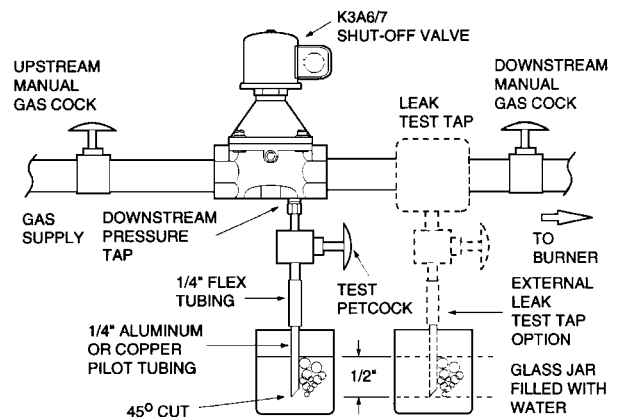

Figure 3. Testing for internal seat leakage.
Series K3A6 and K3A7 valves are provided with two 1/8" NPT tapped and plugged holes (pressure taps). The upstream tapped and plugged hole is on the side of the valve body; downstream on the bottom of the valve body. One upstream for pressure testing; one downstream for seat leakage testing. Leakage testing frequency shall be at least annually in accordance with NFPA-86 or original equipment manufacturer recommendations. For instructions, refer to section on *Testing for Internal (Seat) Leakage* and Figure 3.
Testing for Internal (Seat) Leakage (Refer to Figure 3)
4. Shut off the upstream manual gas cock and de-energize valve. Remove the plug from the leak test tap or downstream pressure tap in the valve body. Connect leak test equipment with the test petcock in the closed position (Figure 3).